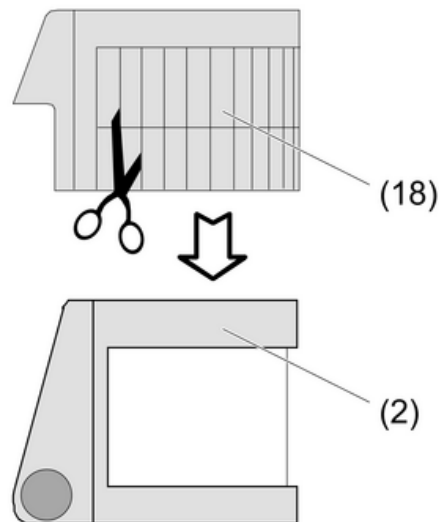

Figure 18: Cutting out the cover panel
- Cut out the cover panel (18) (Figure 18).
- Push the cover panel onto the sensor head (2).